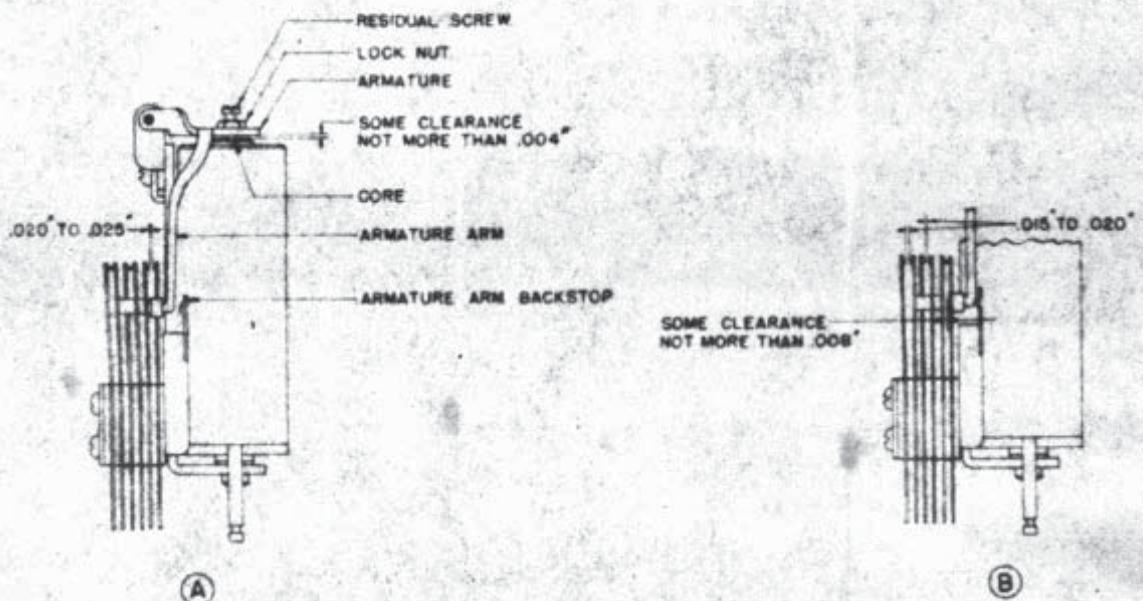

FIGURE 5
Start Signal Relay Adjustments (Figure 5)
- (a) When the armature is manually operated, there should be some clearance, not more than .004" between the armature and the magnet core. (See Figure 5-A.)
- (b) When the armature is manually operated there should be .020" to .025" clearance between the "break" contact points. When the armature is released, there should be approximately .010" "follow" as the "break" contacts close. (See Figure 5-A.)
- (c) With the armature arm resting against the armature arm backstop, there should be some clearance, not more than .008" between the insulating button on the armature arm and the contact spring which it engages. (See Figure 5-B.)
- (d) There should be .015" to .020" clearance between the "make" contact points when the armature is released. (See Figure 5-B.)